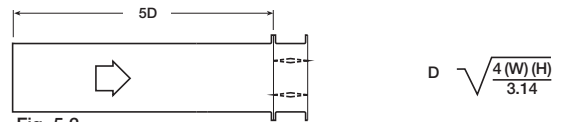

Fig. 5.2
**Figure 5.2** Illustrates a ducted damper exhausting air into an open area. This configuration has a lower pressure drop than Figure 5.5 because the entrance losses are minimized by a straight duct run upstream of the damper.